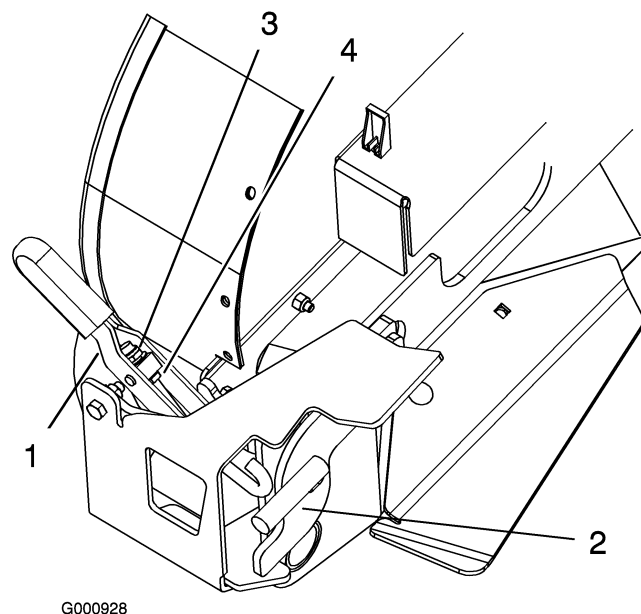

Figure 9
4. The blower latch must engage the front peg properly (Figure 9). If it does not, proceed to item 5 of this procedure and lengthen the latch.